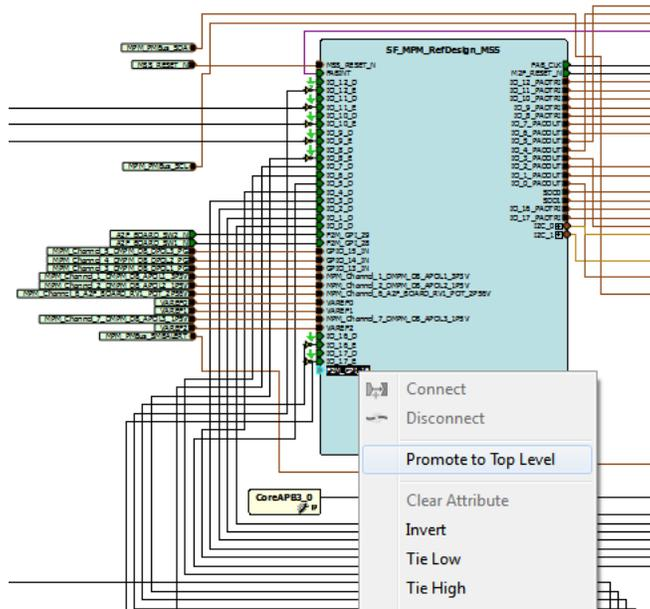

Figure 50 • Promote to Top Level
4. Right-click the F2M_GPI_16 pin of SF_MPM_RefDesign_MSS and select Promote to Top Level as shown in Figure 50.